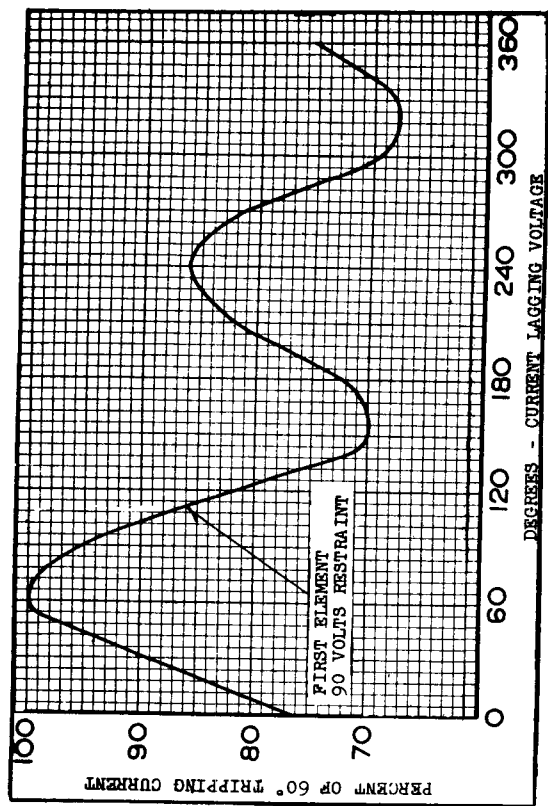

Fig. 5. Typical Phase Angle Curve of the Impedance Unit (HZ)
- \* Equation (1) applies if the protected line section impedance angle is 60°. At other line angles the settings can be corrected by using Fig. 5. For example, if the line angle is 45°, the unit will operate at 96% of the 60° tripping current. Therefore, reduce the TS product by 4% (100% - 96%).